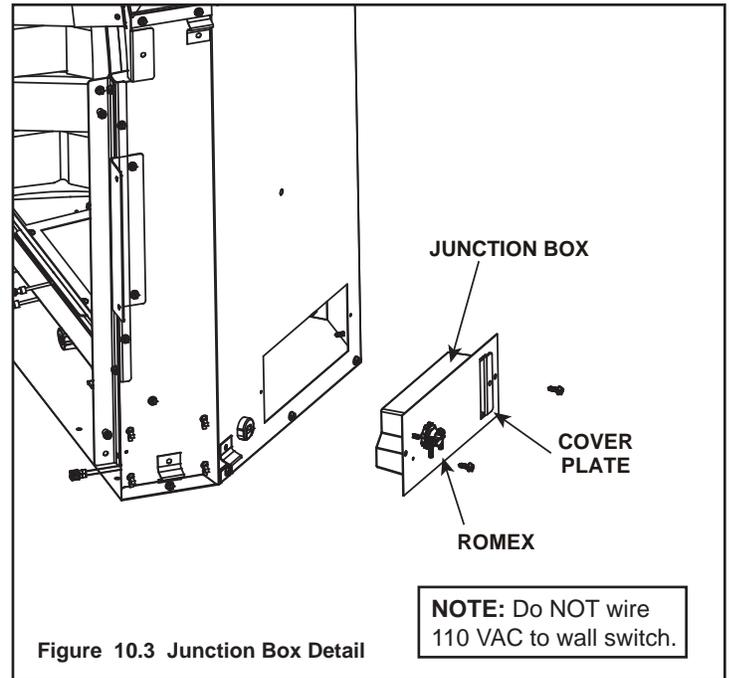

Figure 10.3 Junction Box Detail
- Remove the junction box assembly located on the outer shell - right side (see Figure 10.3).